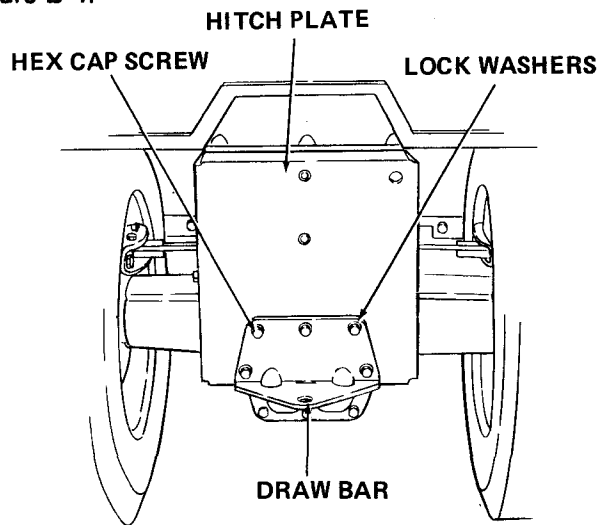

Figure B-4
5. Remove draw bar from hitch plate by removing five hex cap screws and lock washers. Retain draw bar and mounting hardware. Refer to Figure B-4.